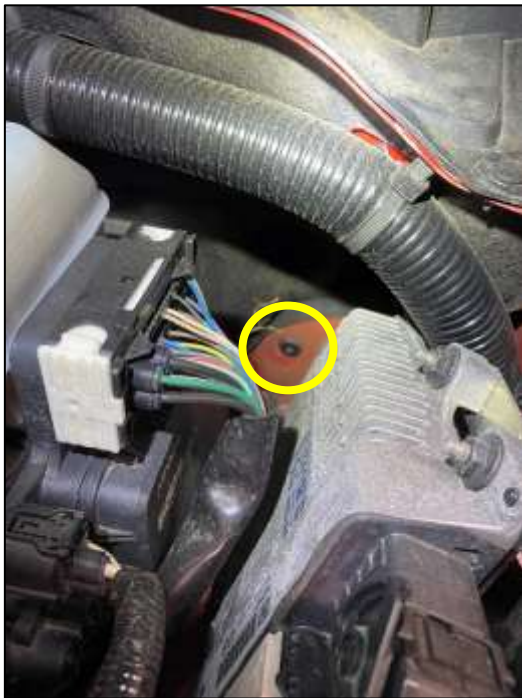

Figure 8
13. Locate the small grommet on the Driver's side of the engine bay/footwell. Using a long screwdriver or similar tool, push this grommet out of its mounting hole. *Figure 8.*